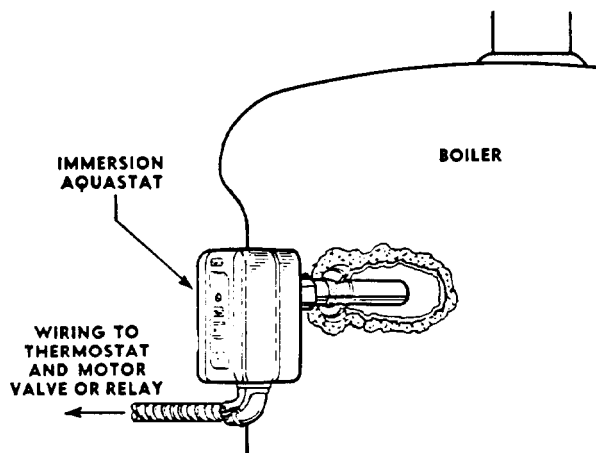

Figure 7-9. Immersion aquastat installation in hot water boiler.
(1) If limit controls are of the mercury type, be sure they are mounted level. Figures 7-9 and 7-10 are typical installation diagrams of immersion aquastats for hot water boilers.